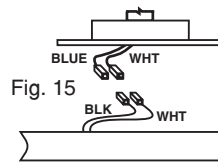
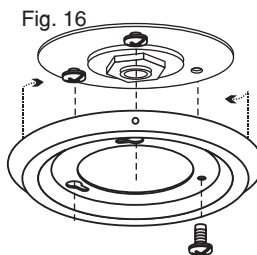

Fig. 15
Fig. 16
If you are installing the light dome, lift the Light Fixture up to the bottom mounting plate. Plug in the two light wire connectors - Black to Blue, and White to White. See Fig 15. Position the wires and connectors within the hollow depression in the bottom mounting plate. Position the fixture so the two screws extend through the two keyway holes. Rotate the Light Fixture clockwise to lock in and install the screw removed earlier to secure the fixture to the fan. Tighten all screws securely. See Fig 16.
C. If you are not installing the light, lift the Switch Cup Plate up to the bottom mounting plate, so that the two screws extend through the two keyway holes. Rotate the Switch Cup Plate clockwise to lock in and install the screw removed earlier. Tighten all screws securely. See Fig 16.